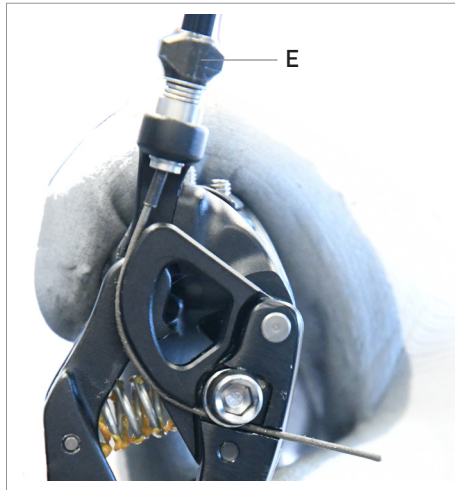

Fig.22
- Turn the cable tension adjuster (E - **Fig. 22**) until perfect alignment is obtained between the centreline of the top roller and the centreline of the 5TH sprocket.
- If centering between the centrelines of the roller and the fourth sprocket is not correct, turn the adjuster (E - **Fig. 22**) counterclockwise to shift the rear derailleur inwards. Turn clockwise to shift the rear derailleur outwards.